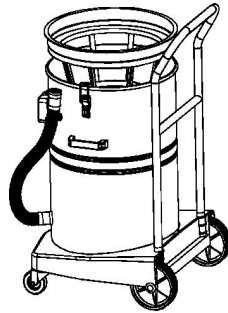

Figure 1
1. Fix the fittings according to the cleaning work. If it is a dust vacuuming, the cloth filter should be fixed; if it is a wet work, the cloth filter should be removed. (Figure 1).